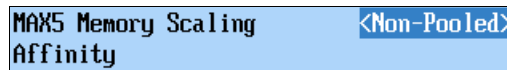

Figure 6-69 UEFI setting for MAX5 Memory Scaling Affinity
16. Select **System Settings** → **Memory** and change the MAX5 Memory Scaling Affinity to **Non-Pooled**, as shown in Figure 6-69.